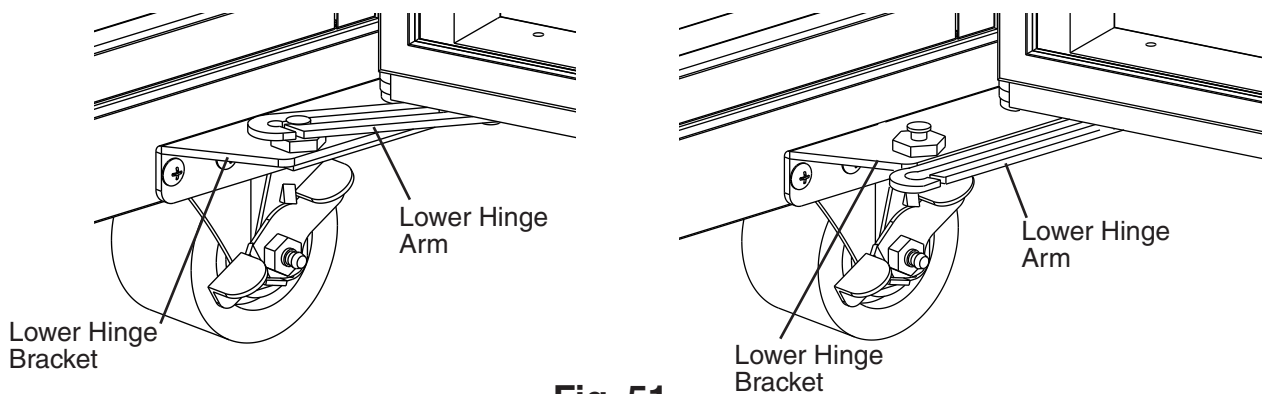

Fig. 51
- 9) Open the lower door. Using a screwdriver, unhinge the lower hinge arm from the lower hinge bracket. See Fig. 51